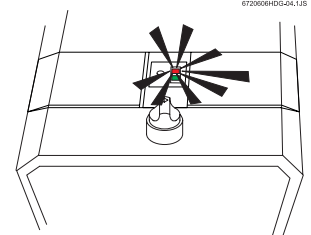

Figure 9
2. The gas valve must be shut off by putting the ON/OFF switch to position "OFF". Wait five (5) minutes to clear out any gas. If you smell gas, STOP! Follow "B" in the safety information above. If you do not smell gas, go to the next step.
4. Set the ON/OFF switch to the "ON" position. In this position, the water heater is ready to use. (See Figure 9).
The On/Off switch is located behind the flipdown cover plate on the front panel strip. See fig. 9.